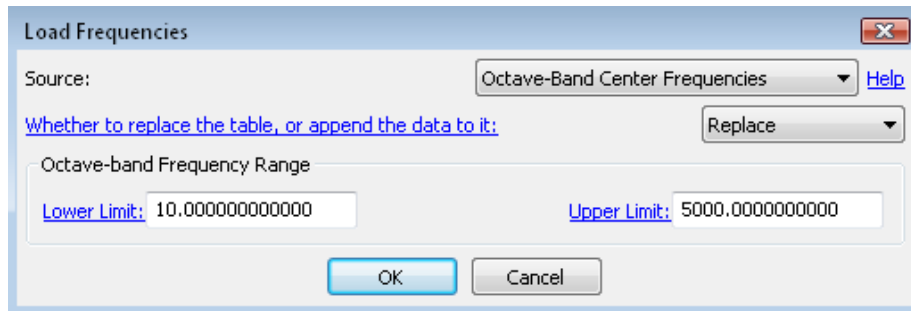

Figure 7.23 Load center frequencies of an octave band.
- Select one of the $1/N$ Octave-Band Center Frequencies from the **Source** drop-down menu. Figure 7.23.